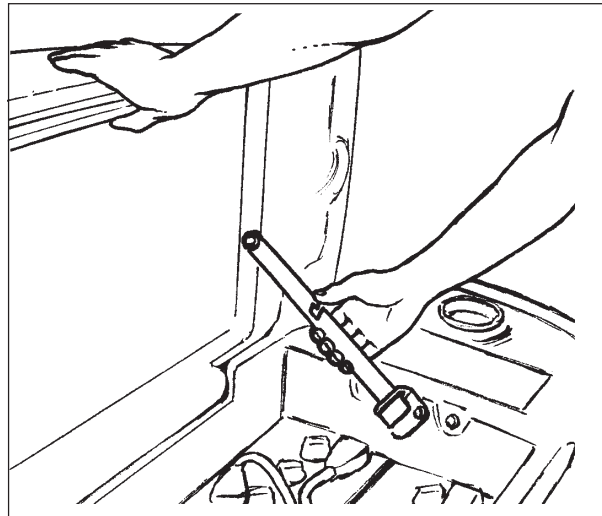

Figure 8A
3. Tip up the recovery tank until it locks in the full open position. See figure 8A.